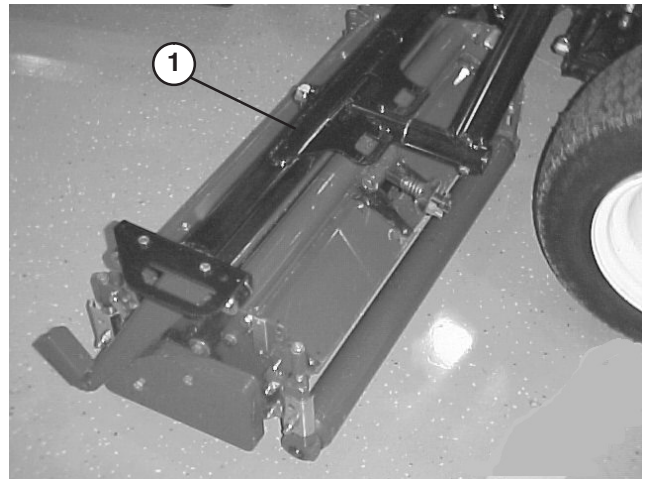
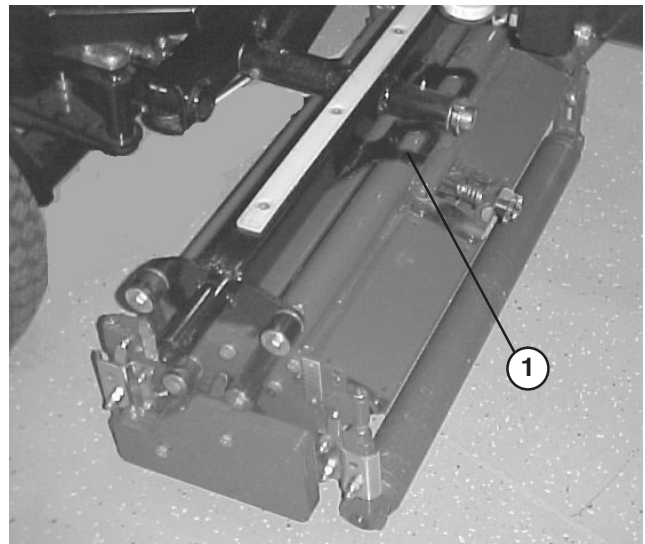
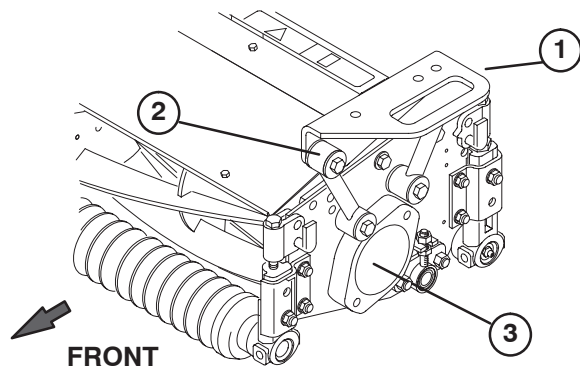

Figure 12
Figure 13
Figure 14
Note: With lift arms fully raised, hoses should be routed as shown in figure 14 and clear lift arm by .04-.12".
2. Position a front carrier frame (Fig. 12) onto each front cutting unit. Align mounting holes with mounting links as shown in figure 14.
3. Position rear carrier frame (Fig. 13) onto rear cutting unit, aligning mounting holes with mounting links as shown in figure 14.
- Secure each mounting link to carrier frame with a 3/8–16 x 2–1/4” lg capscrew, (2) flatwashers and a locknut, as shown in figure 14. Position a washer on each side of link when mounting. Torque to 31 ft–lb.
3. Remove shipping plug from bearing housings on remaining cutting units (Fig. 14).